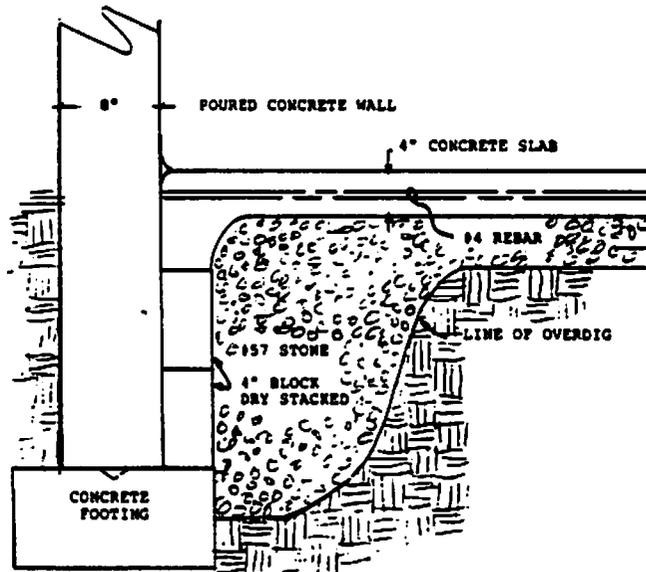

Figure 1
- o adding brick or block and reinforcing rods at the overdig near footings (see Figure 1).